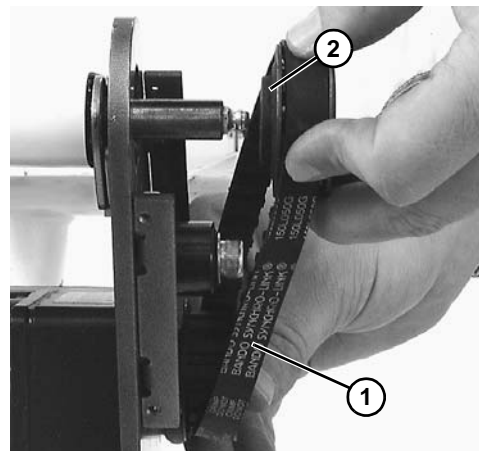

Figure 20
3. Remove timing belt (Figure 20, item 1).
*If timing belt does not slide over pulley flange, loosen driven pulley set screws (Figure 20, item 2) and remove pulley with belt. For re-installation, see steps 6 through 9 on page 9.*